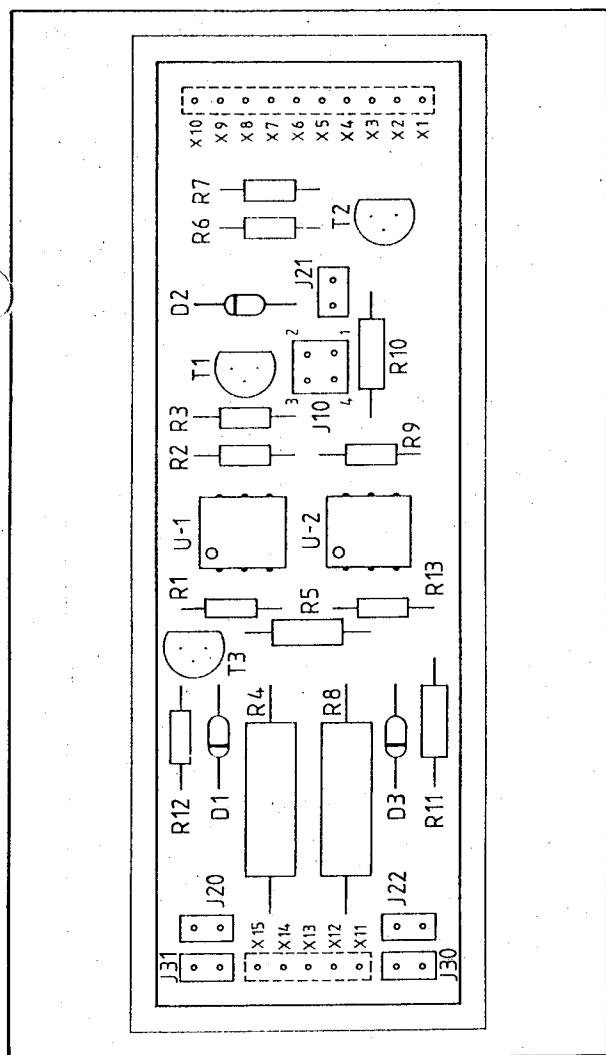

Figure 9 - EIA/RS232C to Current Loop Interface Component Layout
The interface is equipped with various two-pole strapings (see figure 9) to allow four different modes of operation:
**Active Receiver Mode** — is selected by placing two-pole shunts on strapping J-20 en J-21 (see figure 9) and 1 shunt on strapping J-10, as shown in figure 10.